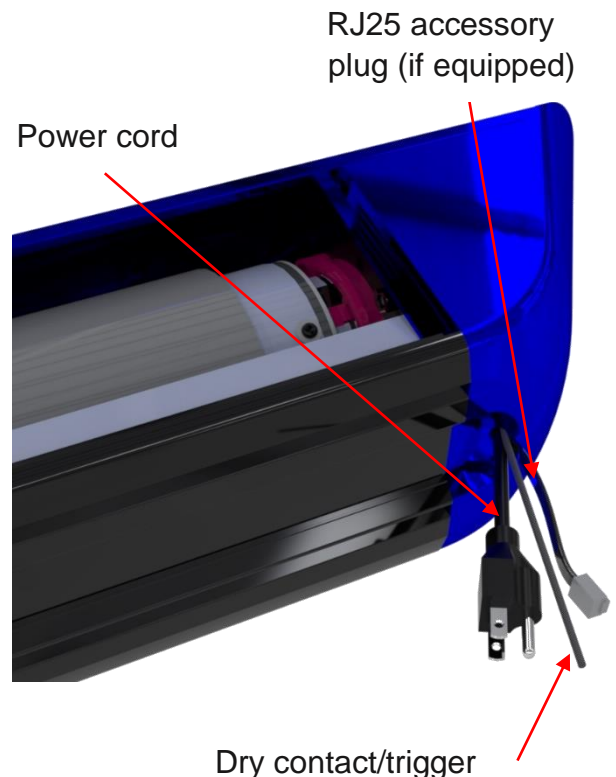

Figure 19: Rear, audience left of case with 10 ft. power cord, RJ25 output (if equipped) and a dry contact/trigger wire
Dry closure modules from any home automation system can be interfaced, utilizing up/down/common type terminations **only** on the dry contact/trigger cable (see Figure 19).
1. Locate the RJ25 accessory plug cable on the back of the Cabaret (see Figure 19).
1. Locate the RJ25 male cable from the back of the Cabaret case (see Figure 19).